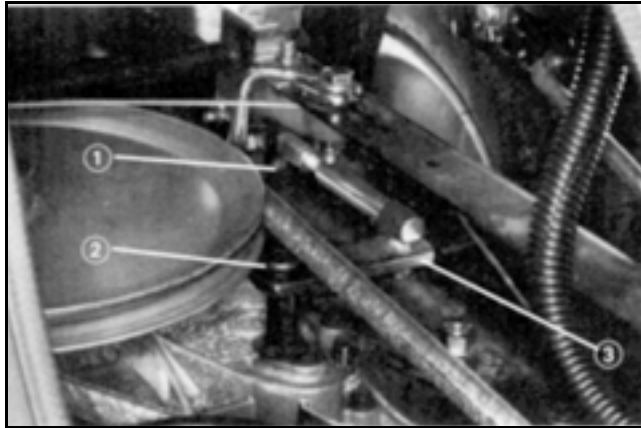

Figure 40
6. If the shifter still does not go into 5th gear, loosen the jam nut on the tie rod end of the shift arm and remove the nut. Rotate the tie rod end until the gear shift lever is centered in the 5th gear gate. Place the shift arm on the gear selector shaft and verify that neutral, reverse, and fifth gears properly align. Reinstall the shift arm fastener and tighten the jam nut (Figure 40).